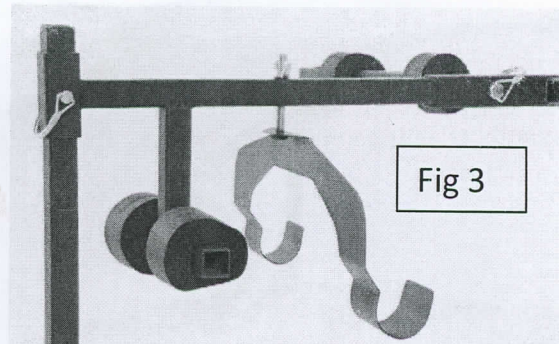

Fig 3
**Step 5:** JK's use the rear hanger showing in fig 3 this is installed by slightly opening the rear glass and fitting hook between glass and hardtop. Keep rear window slightly open. TJ's will use the L-hook which can be connected to the rear of the top